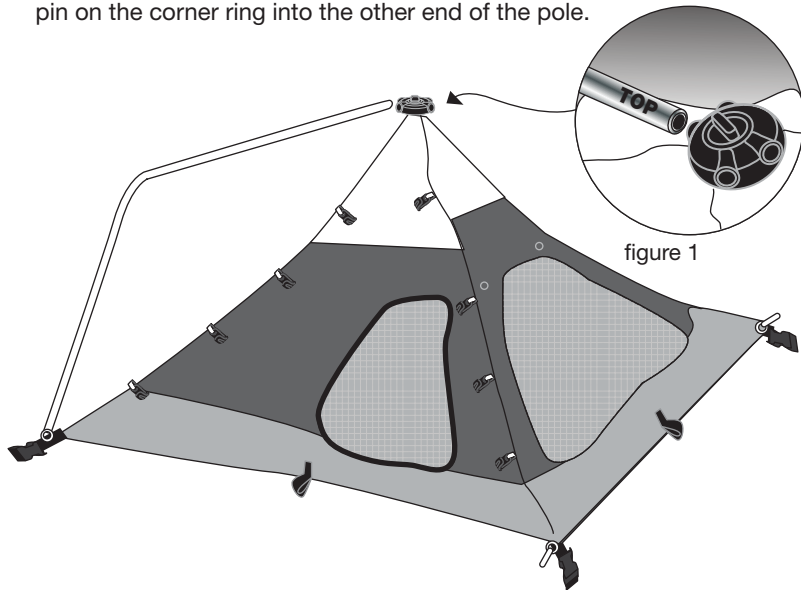

figure 1
2. One end of each frame pole has been reinforced and labeled "TOP". Insert this end into one of the holes in the spider. Make sure that it seats securely. Improper fit could cause the spider to break. See fig.1.